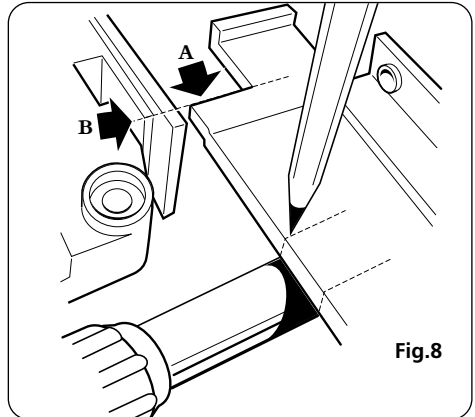
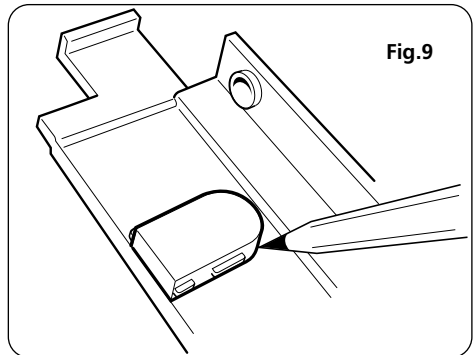

Fig.8
Fig.9
If a side entry is required, the side of the backplate trimplate will have to be cut out. With the trimplate at 90° to the bottom of the backplate (fig.8), line up the trimplate edge (A) with the shoulder (B) inside the backplate outer edge (these two faces butt when assembled). At the point where the trimplate touches the copper pipe mark the cut out position. Using an existing cut-out as a template will provide an accurate guide (fig.9).